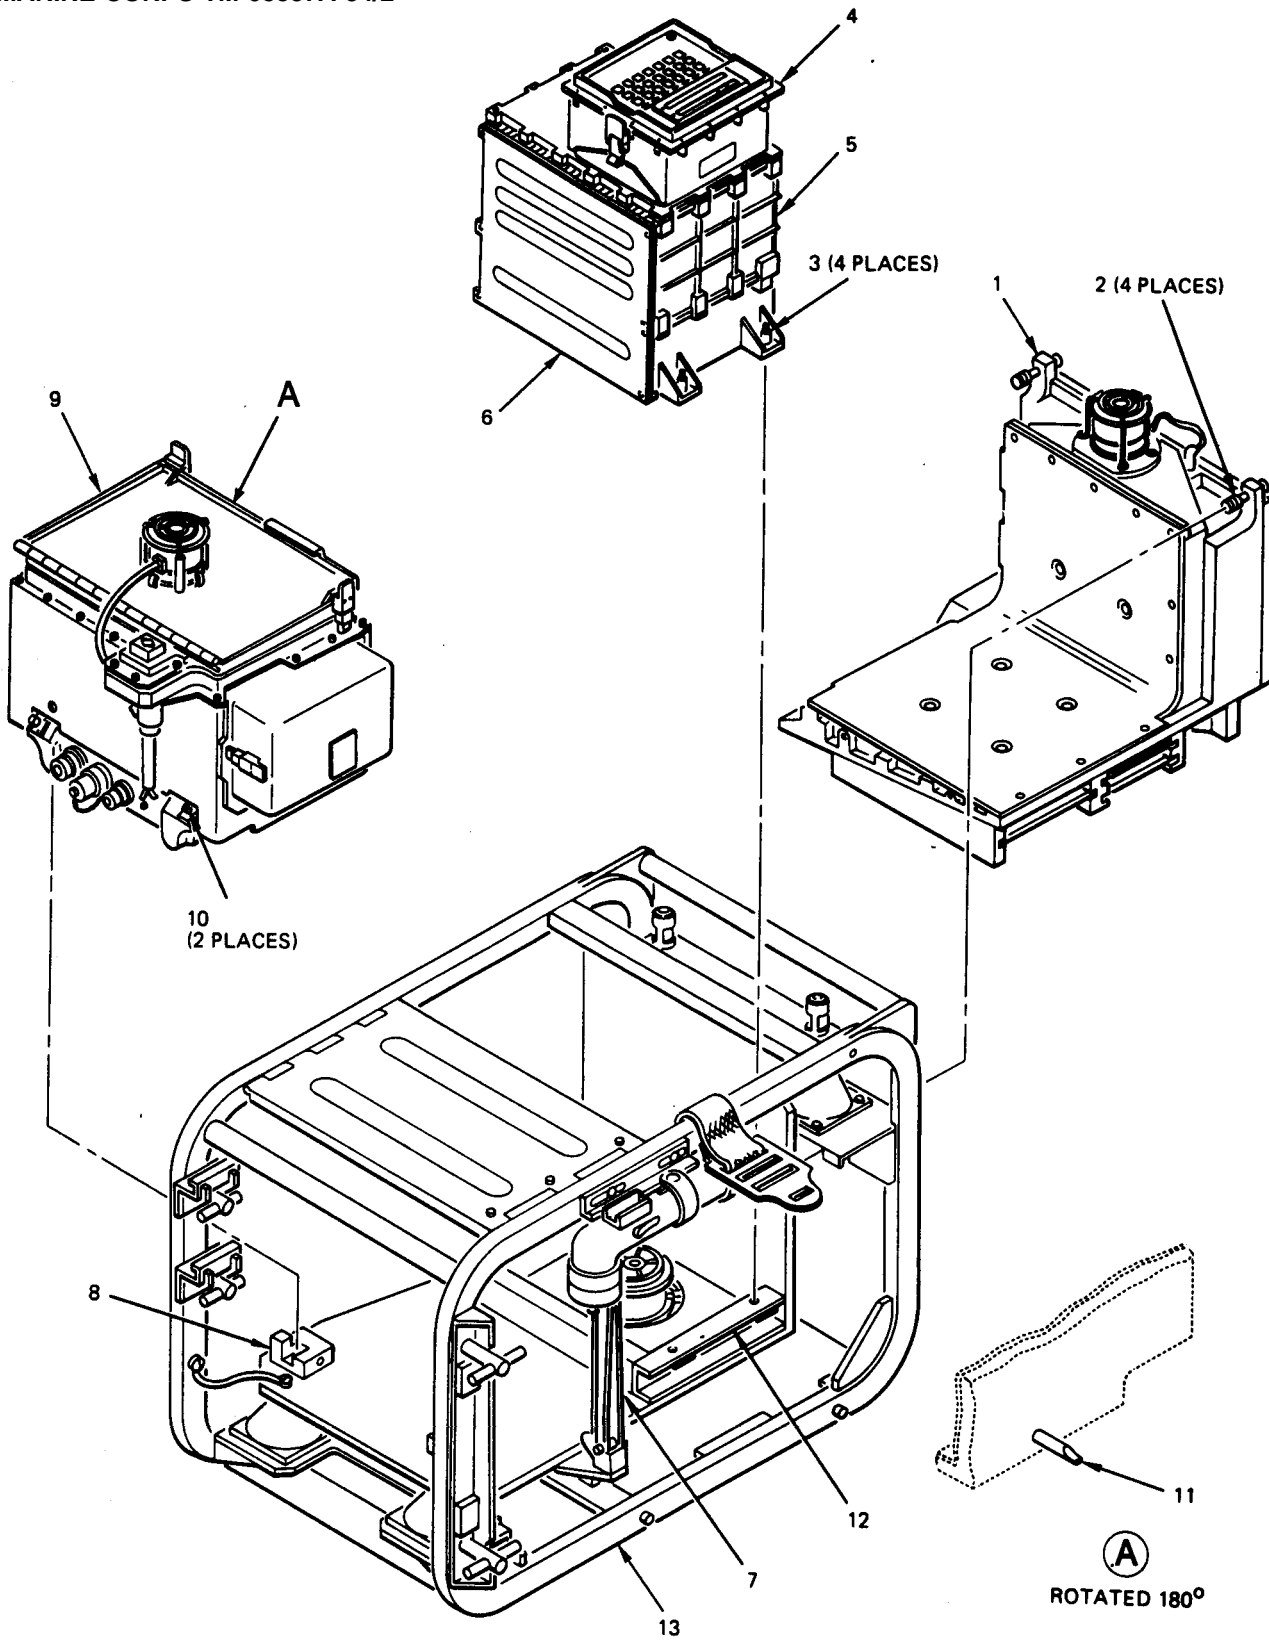
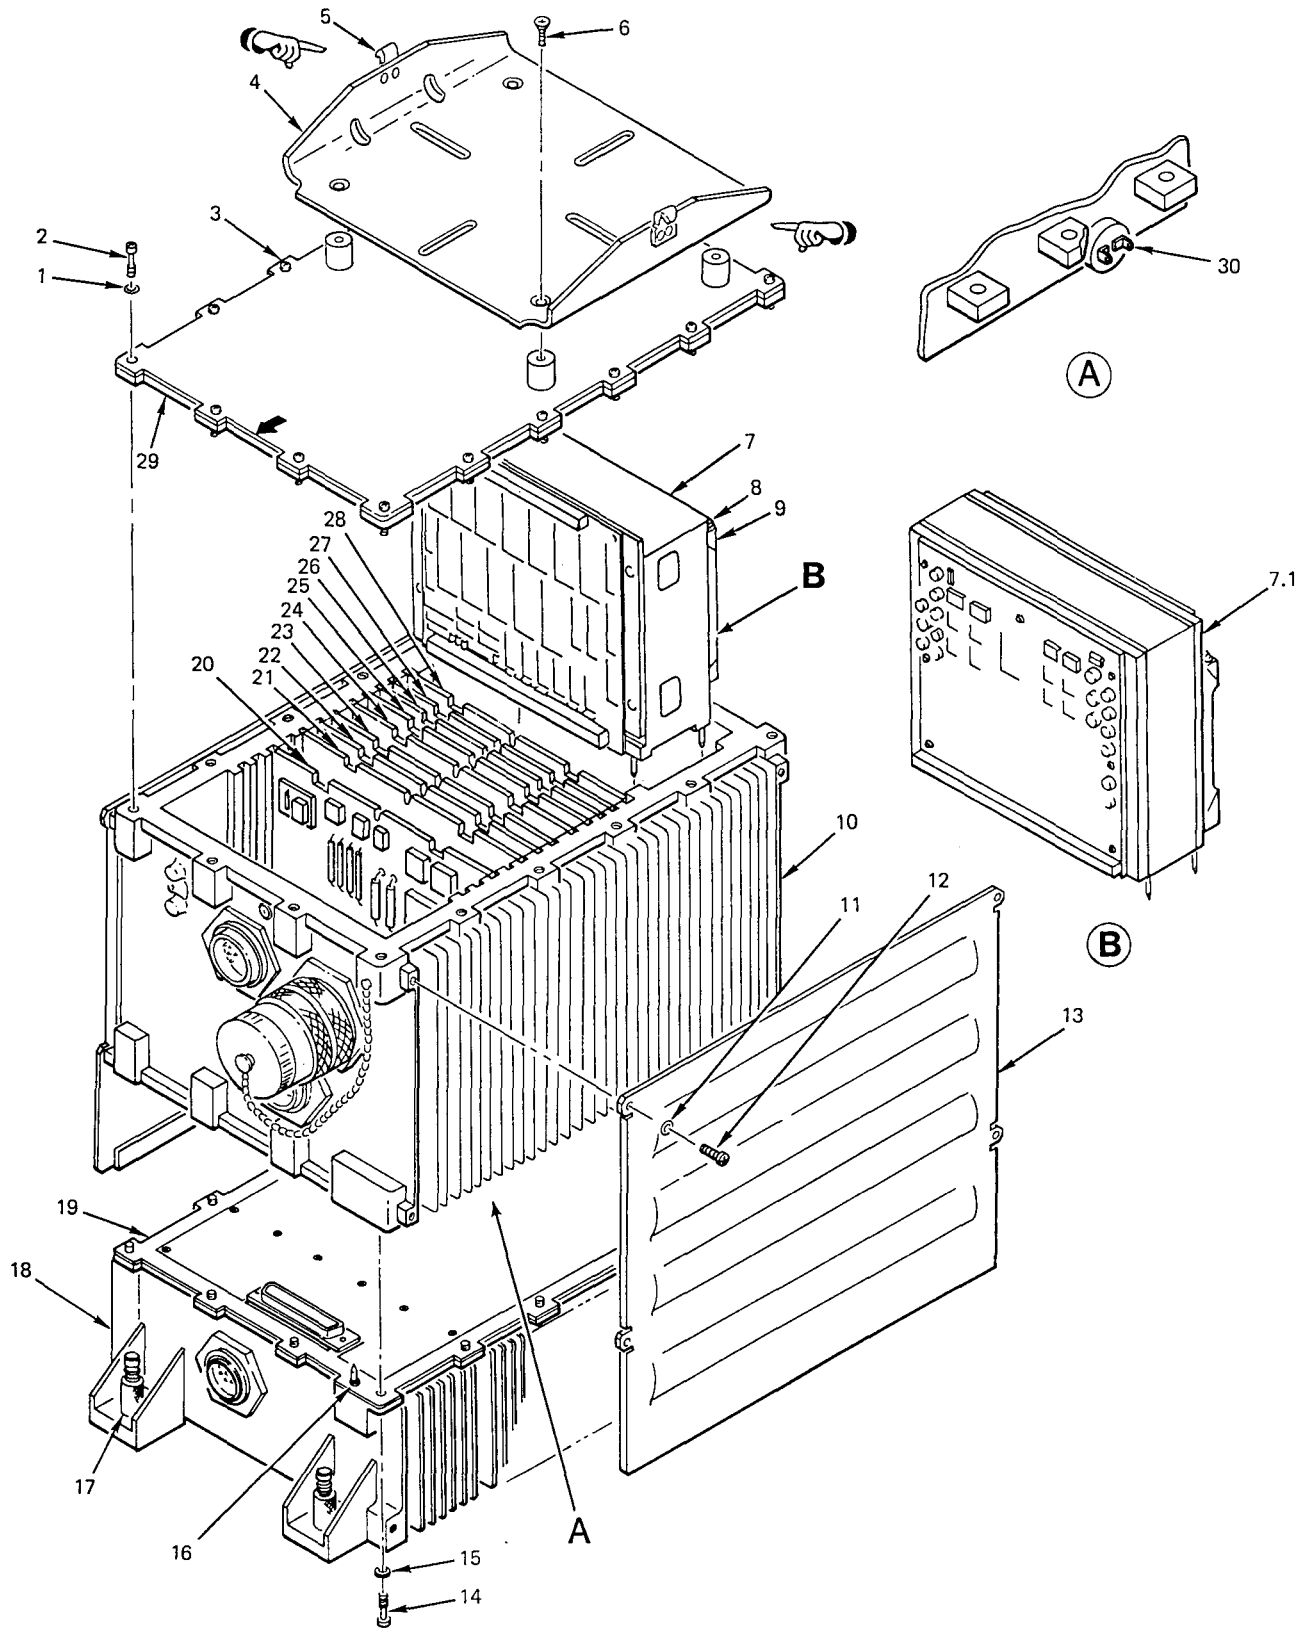

Figure 3-6. Primary Pallet Exploded View
Figure 3-7. Computer Exploded View
3-13. Unit Replacement. This paragraph describes procedures for the removal and replacement of the CDU, computer, computer power supply, IMU, and power supply. Figure 3-1 shows PADS interconnections and figure 3-6 is an exploded view of the primary pallet.
a. **CDU.** Remove and replace CDU (4, figure 3-6) as follows:
- (a) Disconnect cable assembly W 1 connector W1P1 from CDU (4) connector 4J1.
- (b) Release clamping catches securing CDU (4) to computer (5) if CDU is being stored on top of computer. If CDU is mounted on utility truck dashboard, release clamping catches securing CDU to CDU bracket.
- (a) Secure CDU (4) to top of computer (5) or to CDU bracket on utility truck dashboard.
- (b) Connect cable assembly W 1 connector W1P1 to CDU (4) connector 3J1.
b. Computer. Remove and replace computer (5), figure 3-6 with computer power supply (6) as follows:
c. *IMU*. Remove and replace IMU (9, figure 3-6) as follows:
Memory unit A1 (7 or 7.1, figure 3-7) and IMU (9, figure 3-6) are supplied as a matched set in the IMU transit case (figure 3-5). When IMU is replaced, matching memory unit A1 must be installed in computer.
- (b) Swing plum bob arm (7, figure 3-6) out to provide clearance.
- (c) Loosen two bolt assemblies (10) securing IMU (9) to IMU mounts (8) and pull IMU (9) back to disengage guide pin (11) from computer mounting base (12).
- (cl) Lift IMU (9) out through side of mounting base frame (13) opposite the plumb bob arm (7).
- (a) Install IMU (9) through side of mounting base frame (13).
- (h) Engage guide pin (11) in hole provided in computer mounting base (12).
- (c) Engage and torque to 25 inch-pounds two bolt assemblies (10) securing IMU (9) to IMU mounts (8).
- (e) Increase torque to 50 inch-pounds for the two bolt assemblies (10).
Legend for Figure 3-6
d. Power Supply. Remove and replace power supply (1, figure 3-6) as follows:
(1) Removal.
(b) Loosen four captive screws (2, figure 3-6) securing power supply (1) to mounting base frame (13). Remove power supply (1).
(2) Replacement.
3-15. Computer Maintenance. Repair of the computer consists of removal and replacement of circuit cards, memory unit, computer power supply, and radio frequency interference (RFI) gasket, and repair of the mount bracket. Figure 3-7 is an exploded view of the computer.
a. Circuit Card Assembly. Remove and replace circuit card assemblies A2 through A9 and All (20, thru 28, figure 3-7) as follows:
- (a) Install circuit card assemblies (20 thru 28, figure 3-7) as follows:
- (b) Inspect RFI gasket (29). Replace if cracked, broken, loose or excessively compressed.
- (c) Place computer cover (3) on computer subassembly (10); align mounting holes.
- (d) Engage 16 screws (2) and washers (1) securing computer cover (3) to computer subassembly (10) and torque to 16 inch-pounds using procedures described in paragraph 3-11.
b. Memory Unit. Remove and replace memory unit A1 (7 or 7,1, figure 3-7) as follows:
Legend for Figure 3-7
- (b) Tighten two screws (8) in wedgelock (9) until wedge is tight against edge of slot.